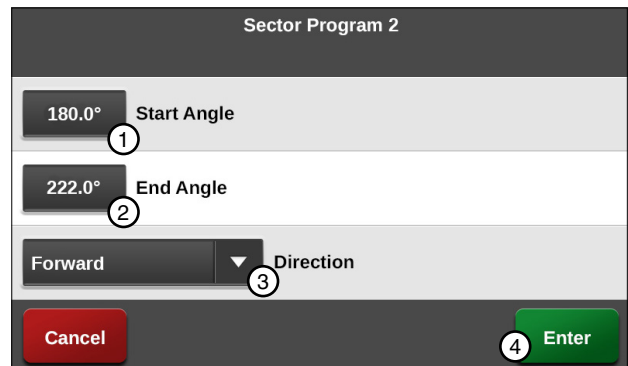

Figure 149-2 1. Start Angle 2. End Angle 3. Direction 4. Enter
3. Select the **Start Angle** field. Refer to Figure 149-2.